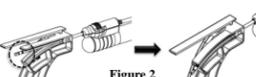

Figure 2
- Confirm that the width of the two black bands on the cannula extends past the end of the bending tip prior to bending (**Figure 2**). This band does not extend past the end of the tab, the handpiece may not function properly after being bent.
- NOTE:** The cannula tip for the 15ga, 10cm and 13ga, 10cm handpieces will not extend past the bending tab as illustrated in **Figure 2**. For these handpieces, simply fully insert their until they cannot be inserted any further) into the bending tool prior to bending.